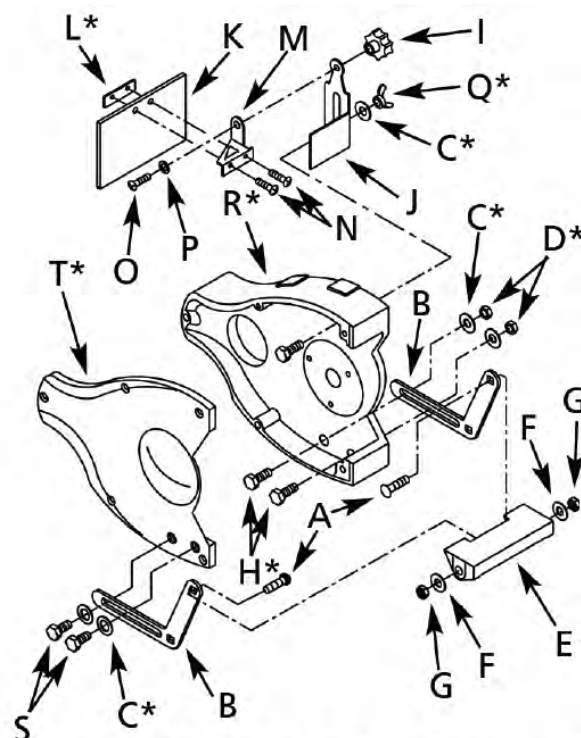

Figure 1 – Left Tool Rest and Eyeshield Assembly
Parts to be fastened to the grinder should be located and accounted for (See List and Figure 1).
Slide 5/16-18" carriage bolts (A) into square holes in tool rest brackets (B). Slide carriage bolts with brackets into holes on inside of tool rest (E) as shown in Figure 1. Slide 5/16" flat washers (F) and 5/16"-18 hex nuts (G) onto carriage bolts. Tighten nuts finger tight. Remove 3/8" hex nuts (D) and flat washers (C) from 3/8-16 x 14" hex bolts (H) mounted to bottom front of left wheel guard (R). Slide slot in tool rest bracket (right side) over 3/8" bolts. Replace flat washers and hex nuts. Position left side tool rest bracket over threaded holes in wheel guard cover and secure with 3/8" flat washers (C) and 3/8-16 x 5/8" hex bolts (S). Position tool rest so that distance between tool rest and grinding wheel is less than 1/16". Secure all nuts and bolts. Mount right tool rest in a similar manner.